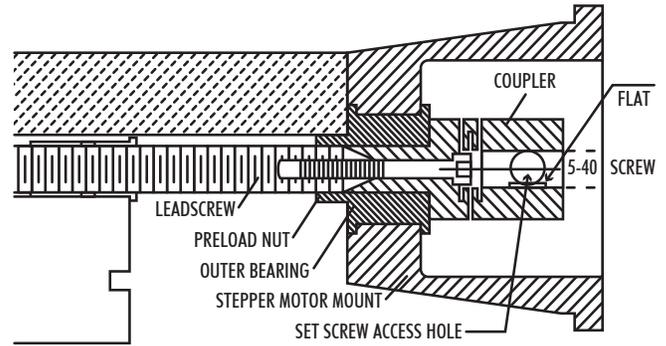

FIGURE 4—A cross-section of the stepper motor mount shows how the coupler is attached to the leadscrew.
1. Before you start, look at the cross-section view in Figure 4 and at the exploded view for the parts list. One of the most important parts of the assembly is to be sure that the preload nut is installed with the counter bore facing the bearing.
5. Using a 3/8" wrench, adjust the preload nut snugly against the bearing. (Note the direction of rotation; i.e., left- or right-hand threads.) Tighten it enough to remove all endplay. (See Figure 4 to understand how the nut preloads the bearings.) Turn the coupling by hand to make sure it turns freely, then put a little Loctite® on the threads behind the preload nut and let capillary action draw the fluid in.